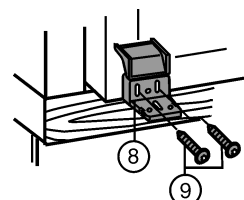

Fig. 14
- ▶ Screw plastic bracket Fig. 14 (8) onto the handle side of the appliance with M5 screws Fig. 14 (9).